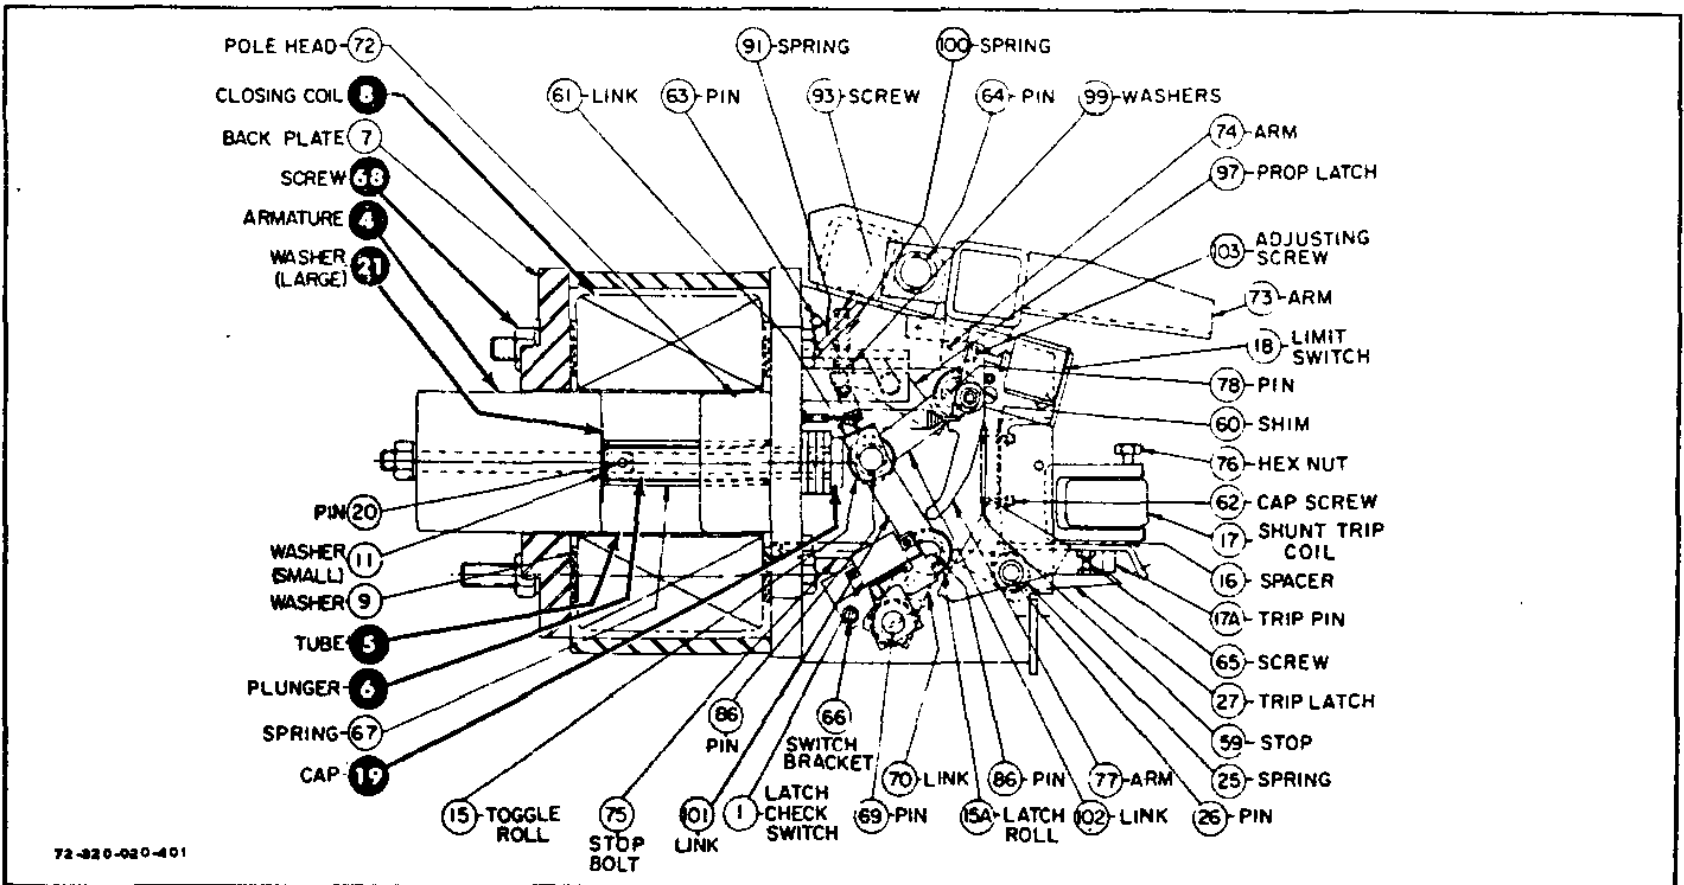

Fig. 3 - Solenoid operator assembly.
The solenoid operator (Fig. 3) is designed to operate on dc current only. The control relay consists of two relays which may be mounted on a common base. Solenoid current is handled by the main control, or X relay, while the second relay, or Y relay, provides auxiliary control and anti-pump protection.
Solenoid Operator - The primary closing force of this operator (Fig. 3) is supplied by a dc solenoid. The iron circuit housing the solenoid consists of the main operator frame - to which the pole head is welded - a helically wound tube and a back plate held in place by four bolts (68). The armature (4), with plunger (6) and cap (19) attached, slides in a non-magnetic tube (5). When the coil (8) is energized, the armature moves toward the pole head. The non-magnetic washer (21) keeps the armature from actual contact with the pole head so that the armature will release rapidly when the coil is de-energized by reducing the effect of the residual magnetism. The armature is returned by a spring around the plunger.